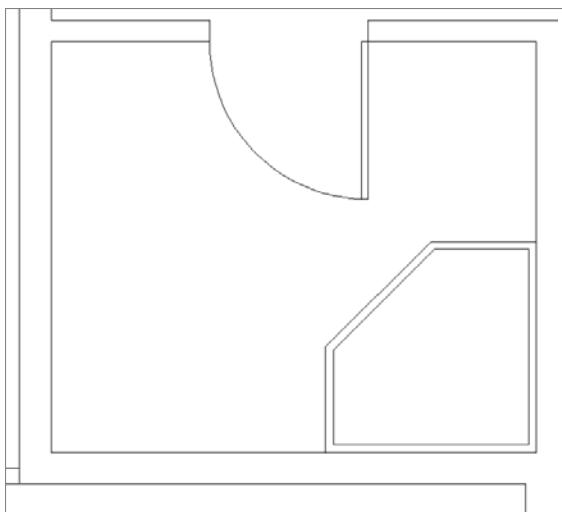

FIGURE 5.65 The offset shower polyline
11. Offset the shower polyline inward $1\frac{1}{2}$ " (38 mm), as shown in Figure 5.65.